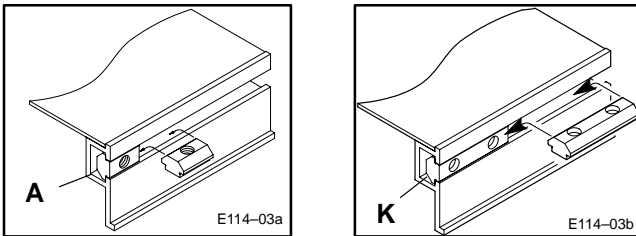

Figure 3: Single (& Double) Drop-in T-bar Installation Details
- a. Insert two of the Single Drop-in T-bars into Conveyor side channel by rolling each one into position (Figure 3).
- c. Insert a Single Drop-in T-bar into Conveyor side channel by rolling each one into position (Figure 3).
- e. Insert the Drop-in T-bar (K) into Conveyor side channel by rolling each one into position (Figure 3).